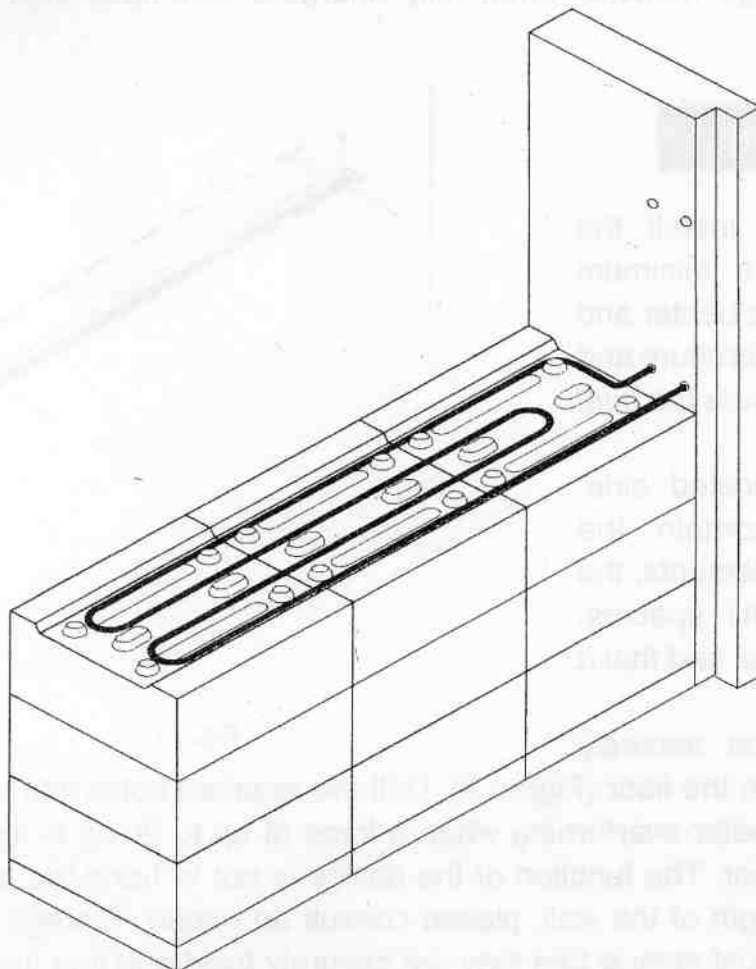

Fig. 3
7. Place a row of storage bricks carefully and insert one of the heating elements in the holes in the right side insulation (Figure 3).